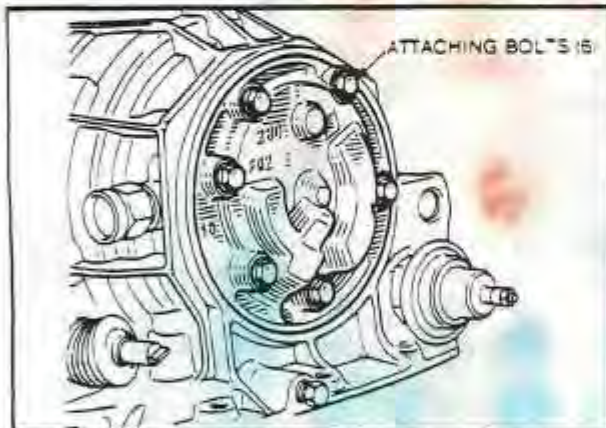

Fig. 15 TRANSMISSION FLUID PUMP
2. Remove five (5) of six (6) fluid pump attaching bolts. Back out but do not remove remaining bolt as this will help prevent dropping gears upon pump housing separation from transmission assembly. *Fig. 15*